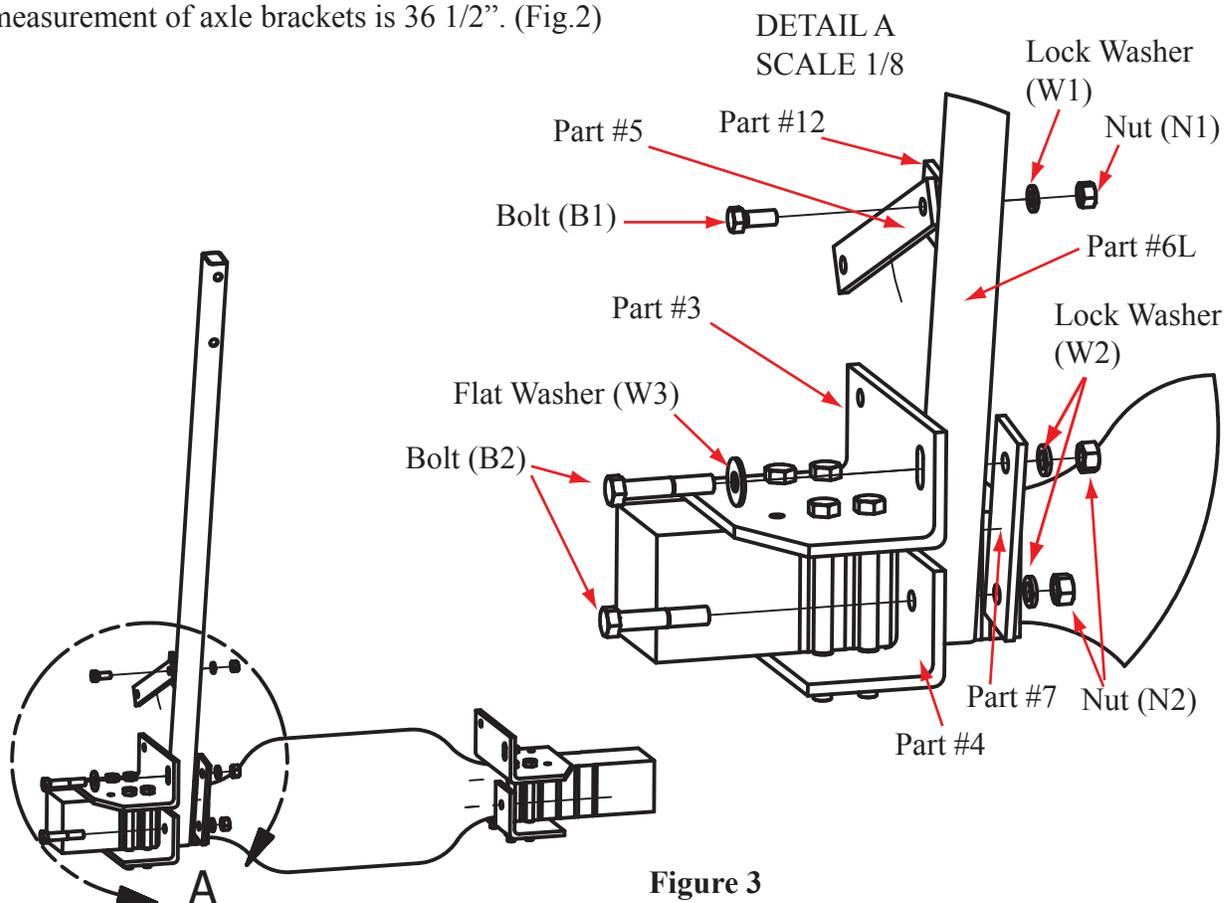

Figure 3
**Step 5.** Insert bolt (B1) into the vertical tube bolted brace (#5) and the vertical tube welded brace (#12), use lock washer (W1) and nut (N1) to create a snug fit. (Figure 3)
**Step 6.** Insert bolt (B2) through the bottom left bracket (#4). Slide the bottom hole of vertical tube (#6L) onto bolt (B2), then place backing plate (#7) onto bolt (B2), secure with lock washer (W2) and nut (N2), create a snug fit. The welded brace (#12) [this is welded to part (#6L)] should be facing up and toward the axle bracket side as shown in Figure 3.
**Step 7.** Rotate the vertical tube (#6L) towards the front of the tractor insert bolt (B2) through flat washer (W3), the slotted opening in the left top axle bracket (#3), the corresponding hole in the vertical tube (#6L), and backing plate (#7), secure with lock washer (W2) and nut (N2) to create a snug fit. (Figure 3)